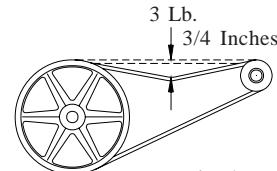

Fig. 4
- Check belt tension.** A 3 lb. force should deflect the belt 3/4 inches (see Fig. 4). Readjust belt if needed.